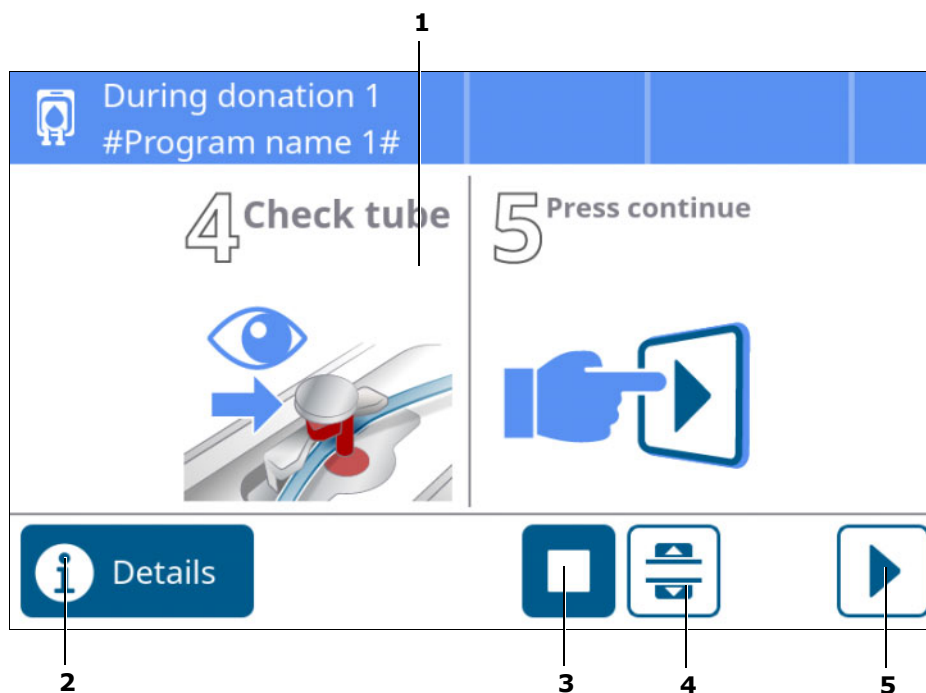

Fig. 33 Donation menu - (during the donation)
- For this purpose, press the **Details** button (Fig. 33, Item 2).
- Press the **Close clamp** button (Fig. 33, Item 4).